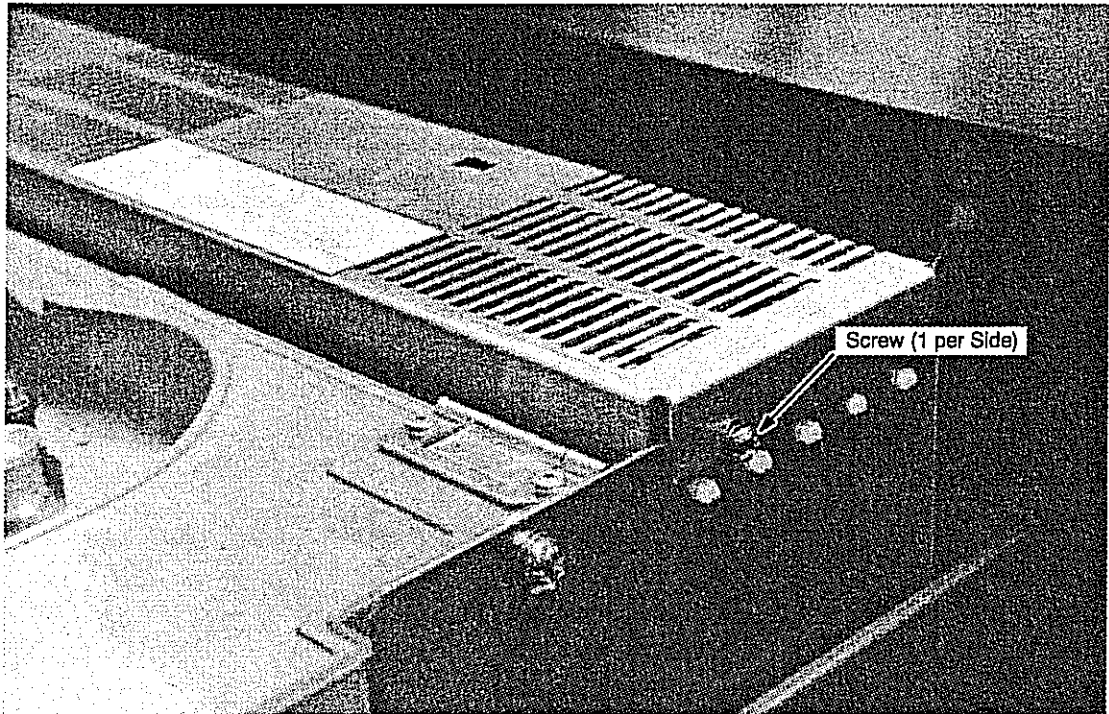

Figure 7-56. TD-2 Tape Drive Logic Board Cover
6. Loosen, but do not remove, the two Phillips screws holding the cover over the logic boards. Refer to Figure 7-56.